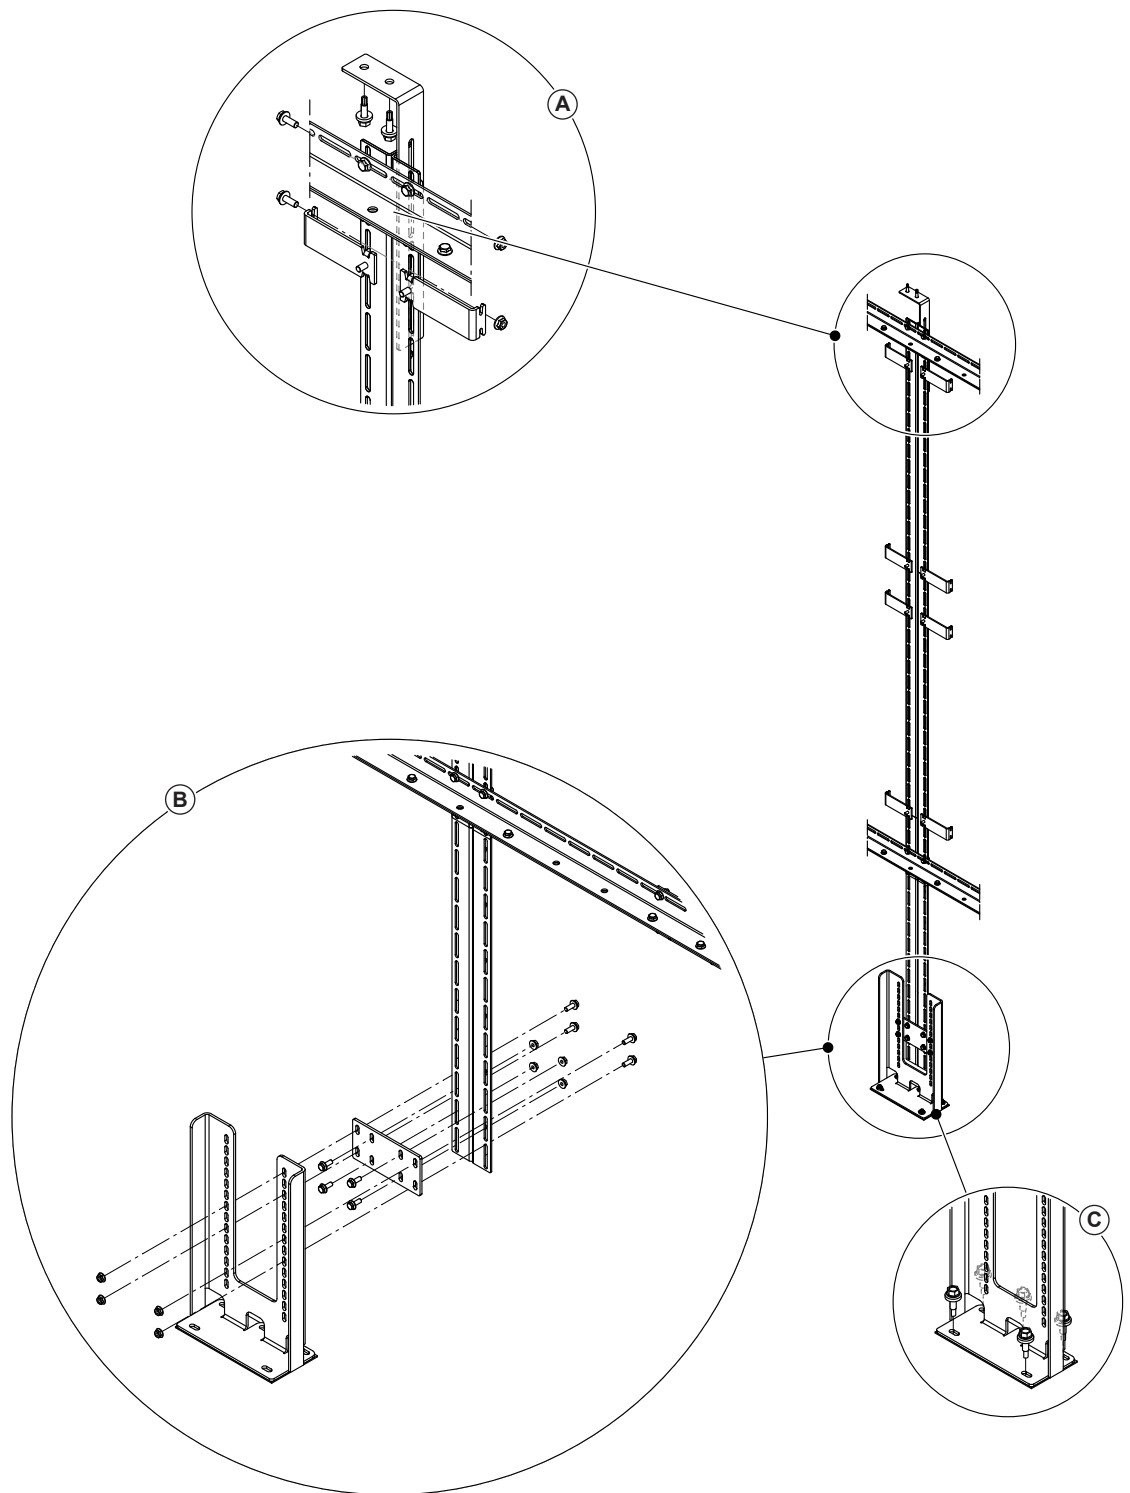

Fig. 29: Mounting the bottom leg support and the angle bracket to the middle vertical support
- If necessary, loosen the two screw connections fixing the angle bracket to the vertical support, push angle bracket to the duct ceiling, then fasten the two screw connections again (see detail A in Fig. 29).
- Fix angle bracket of the vertical support(s) with two appropriate self-tapping screws to the duct ceiling (see detail A in Fig. 29).
- Fix leg support to the fastening plate with four screws M6 x 16 mm and nuts supplied. Slightly fasten the screw connections only (see detail B in Fig. 29).
- Shift the leg support down to the air duct/AHU floor, then fix the leg support to the traverse/ tub partitionment using five appropriate self-tapping screws (see detail C in Fig. 29).